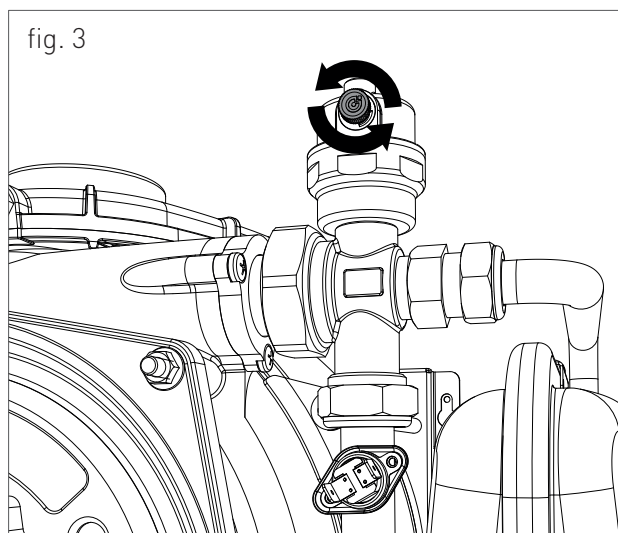

fig. 3
For machine positioning, proceed as follows (see fig. 3):
3. slightly loosen the cap of the auto air vent placed on the top of the condensing block (fig. 3) to release the air form the top of the system;